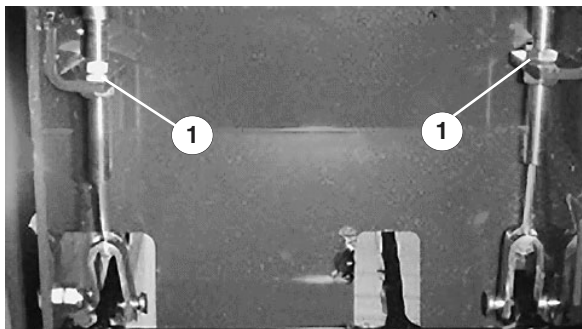

Figure 37
2. To reduce free travel of the brake pedals, loosen the front nut on the threaded end of the brake cable (Fig. 37). Then tighten the rear nut to move the cable backward, until the brake pedals have 13 mm to 25 mm of free travel. Tighten the front nut after the brakes are correctly adjusted.